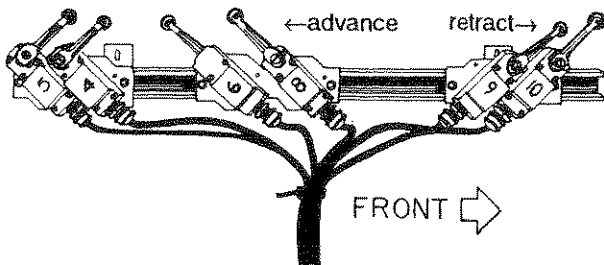

Fig. 47
1. Loosen mounting bolt and slide switch and mount as close to LS5 as possible, see Fig. 47.